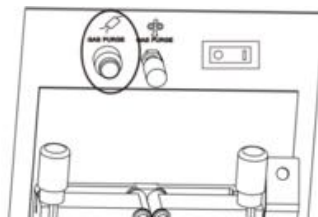

Figure 3-9 Gas check of a manual wire-feeder
2. Gas check of a manual wire-feeder is shown in Figure 3-9.